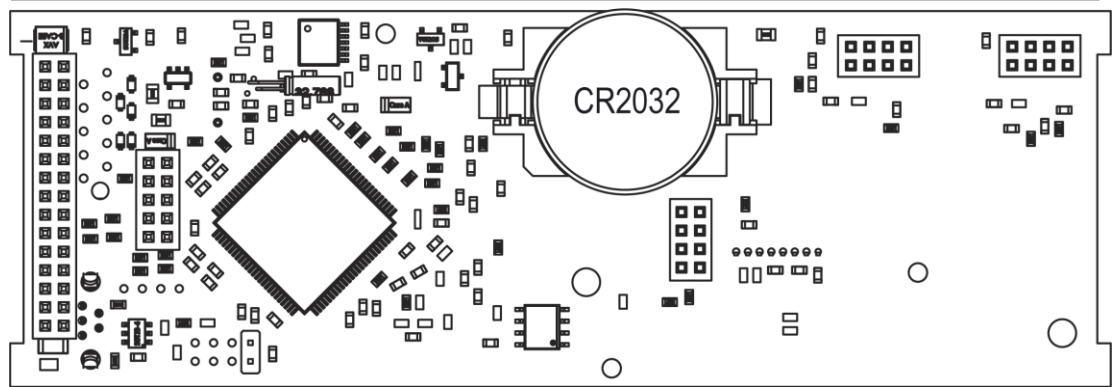

Fig. F.3 Back side view of the top PCB
3. Turn over the released top PCB, lever the CR2032 battery with the screwdriver and pull out from the nest (Fig. F.3).